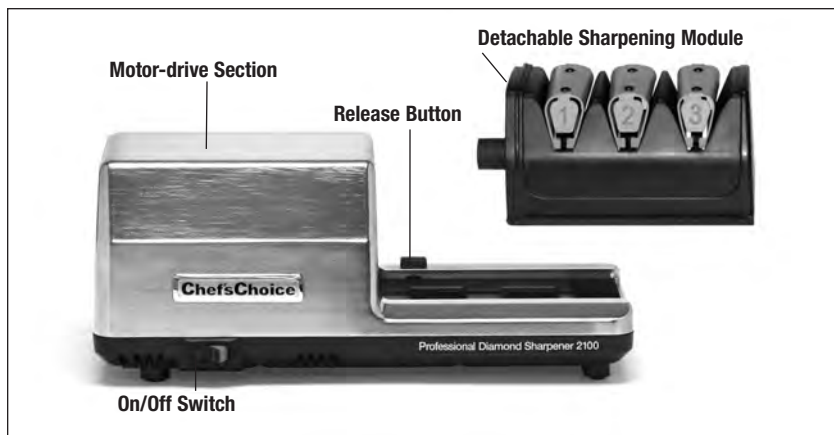

Figure 1. Model 2100 sharpener disassembled.
4. Unplug from outlet when not in use and before cleaning or putting on or taking off parts, except for detachable module (Figure 1).
The Model 2100 has a cast metal motor-drive housing and a detachable Sharpening Module are packed together but are not assembled (See Figure 1).